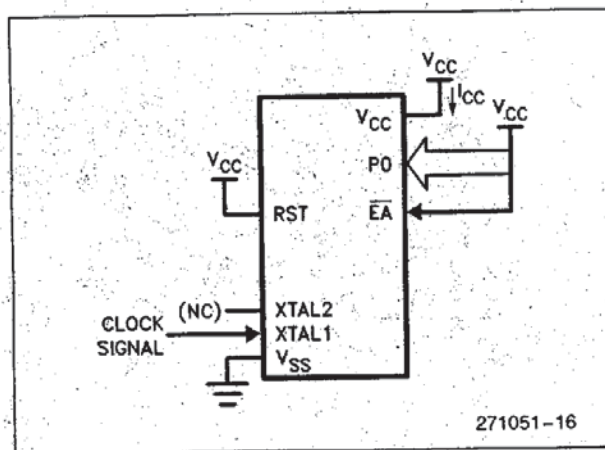

Figure 5. I_{CC} Test Condition, Active Mode.
5. I_{CC} is measured with all output pins disconnected; XTAL1 driven with TCLCH, TCHCL = 5ns, $V_{IL} = V_{SS} + .5V$, $V_{IH} = V_{CC} - 0.5V$ measured with $\overline{\text{EA}}$ and RST connected to V_{CC} . "Idle" current is measured with $\overline{\text{EA}}$ and RST connected to V_{SS} . "Power Down" current is measured with XTAL1, $\overline{\text{EA}}$ and RST connected to V_{SS} . (See Figures 5 through 8 for a graphic representation of the I_{CC} test conditions.